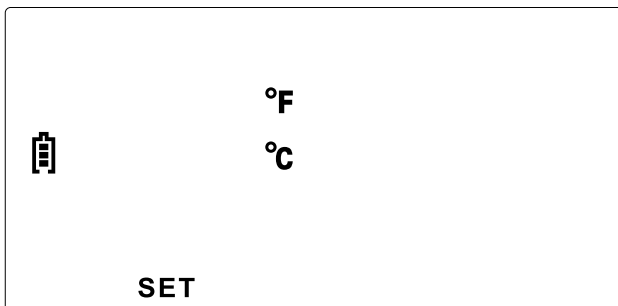

Figure 19: Temperature Units Screen
2. Press the **+** button until **SET** shows at the bottom of the TPMS display. °F/°C will be blinking. See *Figure 19*.